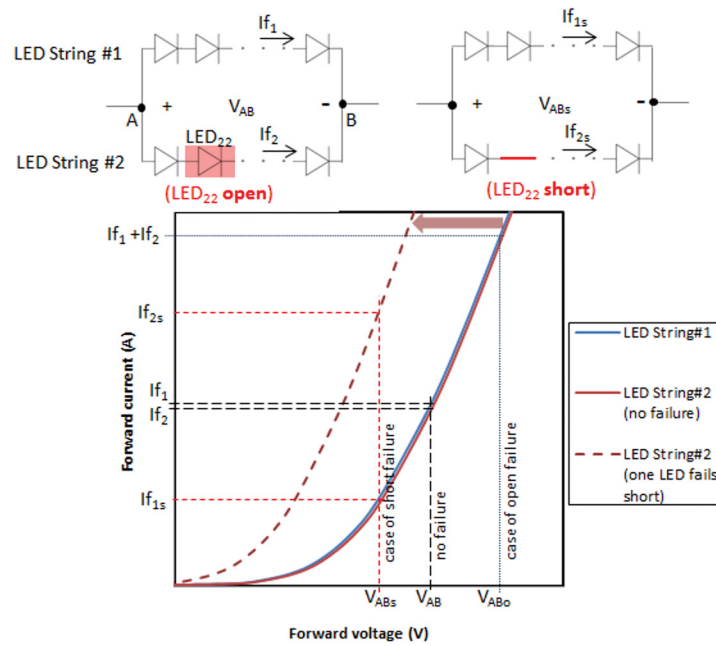

Figure 10: Case example of a series-parallel configuration showing how the current-voltage curve shift when one LED fails short.
A case example: Consider a LED system connected in series-parallel where each LED string has n LEDs in series and there are two parallel LED strings driven by one constant current power supply (Figure 10). In this example, the current flowing through each string (I_{f1} and I_{f2}) is about equal since the two LED strings have good forward voltage matching (by design).
- a. An open failure on one LED unit (LED₂₂ in Figure 10) results in all of the current ($I_{f1} + I_{f2}$) flowing through LED string #1. The forward voltage of the LED will increase from V_{AB} to V_{ABo} (Figure 10 graph). The increase in both the current and voltage may potentially exceed the thermal design of the LED system or the LED max rating which may cause the LED string #1 to fail eventually.
- b. Short failure on one LED unit (LED₂₂) in LED string #2 will result in the current-voltage curve to shift to the left as shown in the red arrow of Figure 10 graph. The forward voltage across both LED strings will drop from V_{AB} to V_{ABs} until the total current remains the same as the output of the constant current source i.e. $I_{f1} + I_{f2} = I_{f1s} + I_{f2s}$ where $I_{f2s} > I_{f1s}$. If thermal equilibrium is not achieved immediately in LED string #2, the excessive heating due to increase current flow will continue to shift its current-voltage curve further to the left as shown Figure 11. Eventually the entire LEDs in that string will fail due to cascading failures.